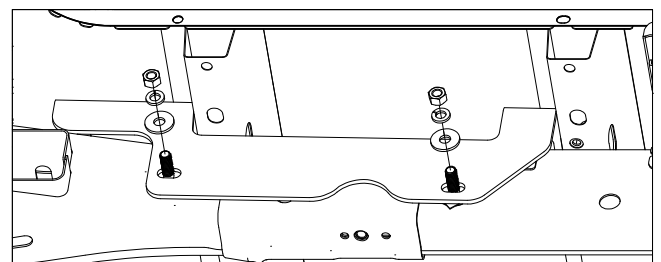

Figure D3: View looking into driver side wheel well.
3. **Install side plates.** Each side plate (driver and passenger side) will install over the carriage bolts previously placed into the frame. Slowly guide the side plate over the carriage bolts and between the cross members. Attach each plate (driver side shown below) with two 1/2" washers, 1/2" lock washers and 1/2" finish nuts, see Figure D3. Do not fully tighten at this time. (Bolts should be hand tightened.)